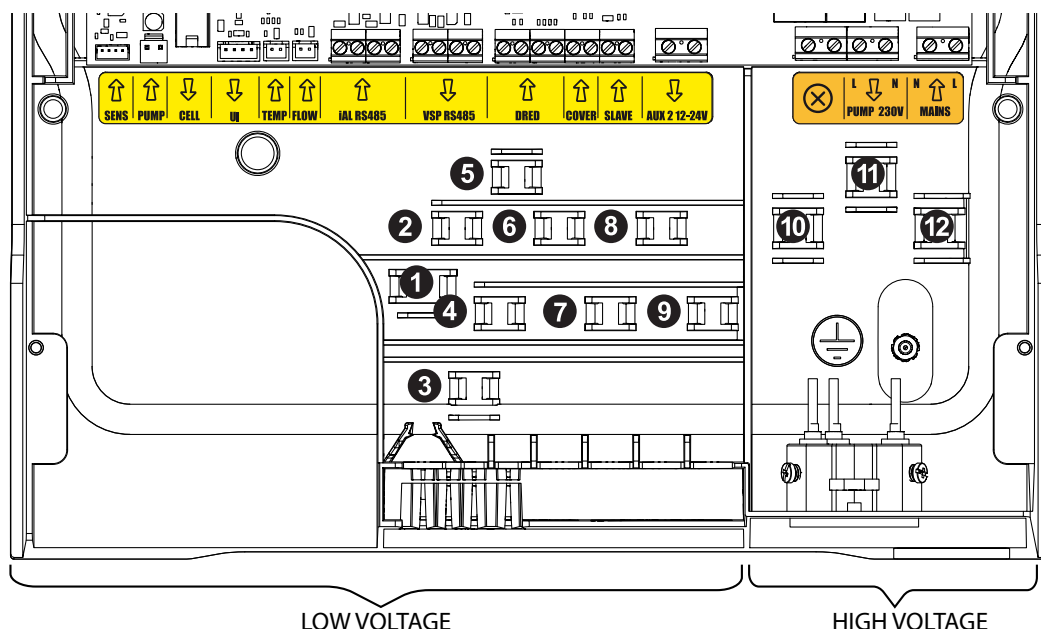

Figure 10. Controller Wiring
1. Wire low voltage connections on the low voltage side of the enclosure, see Figure 10.
2. Wire high voltage connections on the high voltage side of the enclosure, see Figure 10.
4. Use the cable ties provided to secure internal wiring to the controller frame. See Figure 10 for recommended cable tie locations and Table 5 for connection point functions.